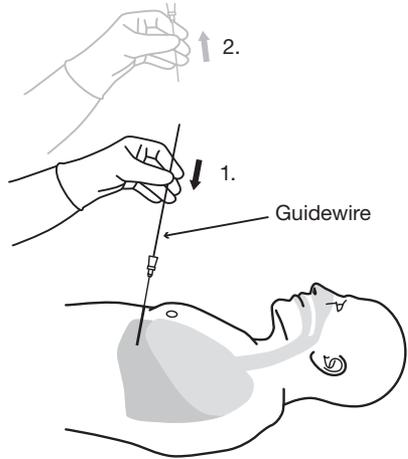

Fig. 2
10. Remove guidewire introducer, leaving the guidewire in place. (Figure 2)